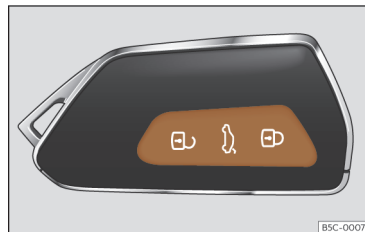

Fig. 78 Remote control key: keys.
- Lock: press the  button >>> **Fig. 78**.